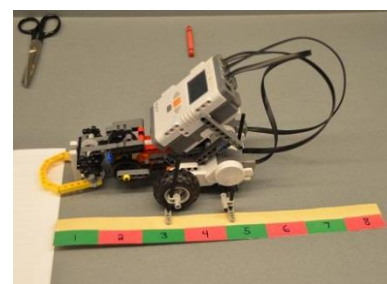

Figure 4
- What can we do to our ruler so that we don't have to count the strips? (*Put numbers on the ruler*) See Figure 4
- Attaches the Tagboard ruler on the side of the robot (See Building Instructions, Attaching Rulers to robot) Figure 4